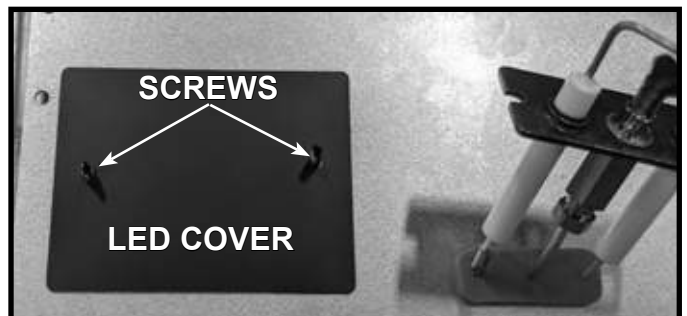

Figure 11.14 LED Cover Installed
4. Locate the LED lights in the back left and right corners of the firebox and install LED covers. The LED covers prevent reflections from the glass refractory from detracting from the overall viewing experience. Place LED cover over the screws as shown in Figure 11.14.